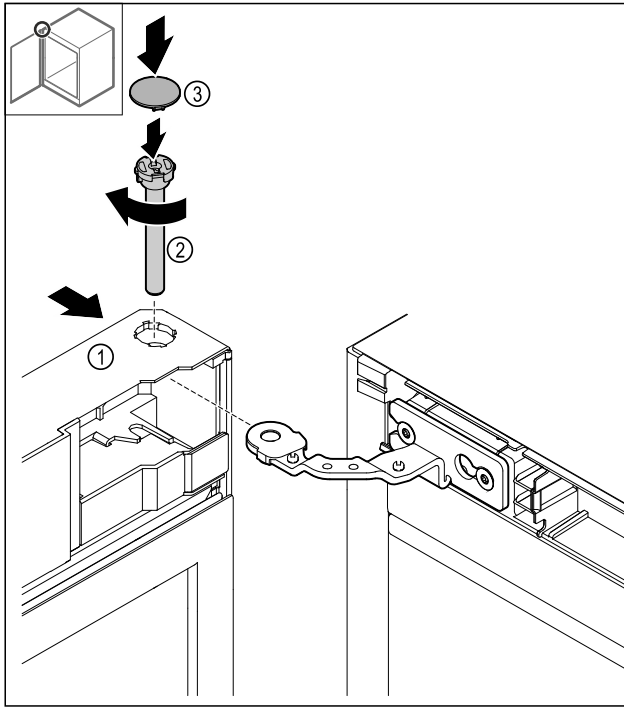

Fig. 38
- ▶ Slide the door Fig. 38 (1) onto the top hinge.
- ▶ Insert the bolt Fig. 38 (2) and turn it clockwise to tighten.
- ▶ Put on the cover Fig. 38 (4).